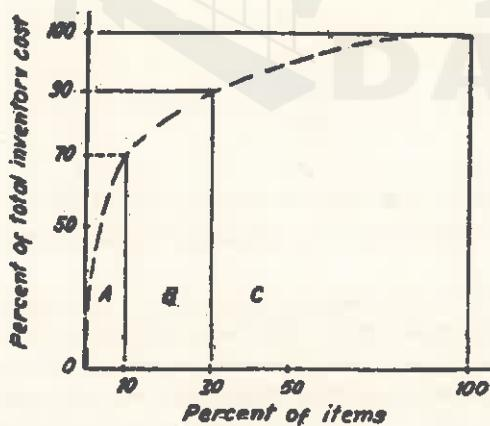

Fig. 24.6. ABC analysis.
5. A graph can be plotted between percent of items (on X-axis) and per cent of total inventory cost (on Y-axis). Figure 24.6 shows such a graph.